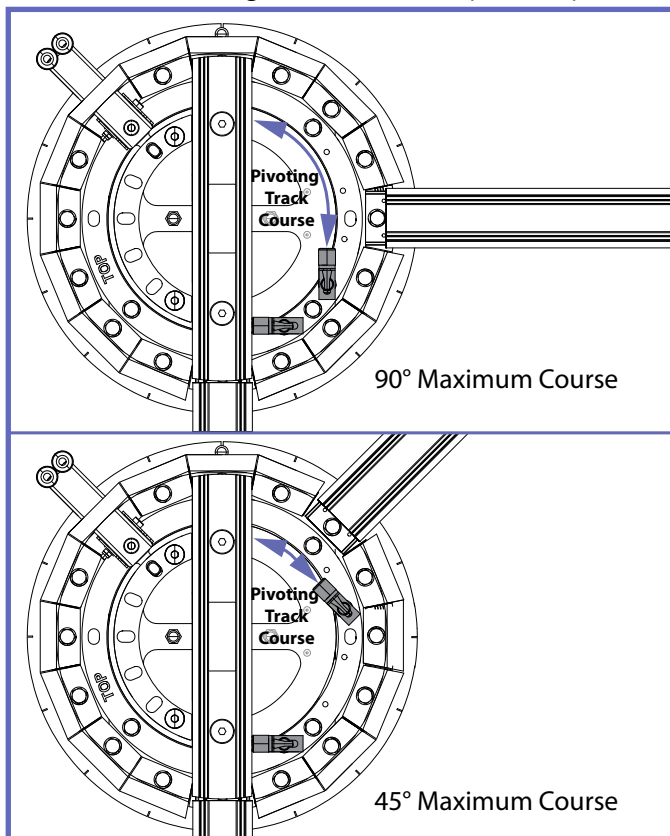

Fig. 25
- 7) Review position of the limit stoppers. Make sure they are placed to limit the pivoting track maximum course in both directions, see examples in Fig. 25. Use a 10 mm Hex Socket and tighten to 7 N·m (5 lbf·ft).